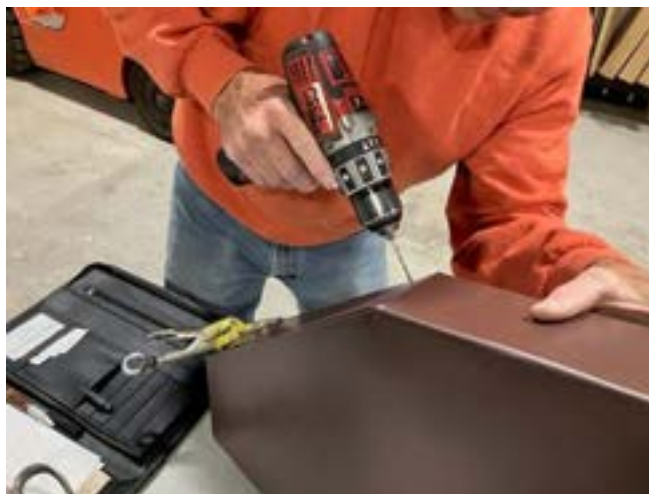

Figure C-11. Drilling Rivet Holes.
4. Drill three $\frac{1}{8}$ " holes through both coil stock layers on the bottom edge about 1-2" from the plenum edge and about 3"-4" apart (see Figure C-11).